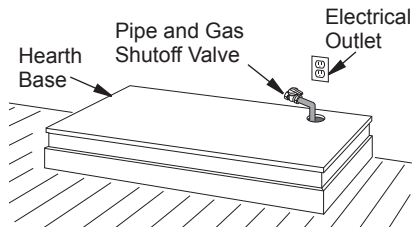

Figure 12 - Placing Hearth Base Against Wall
Built-in installation of this fireplace involves installing fireplace into a framed-in enclosure. This makes the front of fireplace flush with wall. An optional brass trim kit accessory is available (see *Accessories*, page 44). Brass trim will extend past sides of fireplace approximately 1/2". This will cover the rough edges of the wall opening. If installing a built-in mantel above the fireplace, you must follow the clearances shown in Figure 12, page 12. Follow the instructions below to install the fireplace in this manner.
2. If blower is installed, install a properly grounded, 120 volt three-prong electrical outlet at fireplace location if an outlet is not there. If possible, locate outlet so cabinet mantel will cover it when installed (see Figure 12).
3. Place hearth base against wall at installation location. Cut an access hole in hearth base to run gas line to fireplace (see Figure 12). Make sure to locate access hole so cabinet mantel will cover it when installed. **Note:** You can secure base to floor using wood screws. Countersink screw heads and putty over.